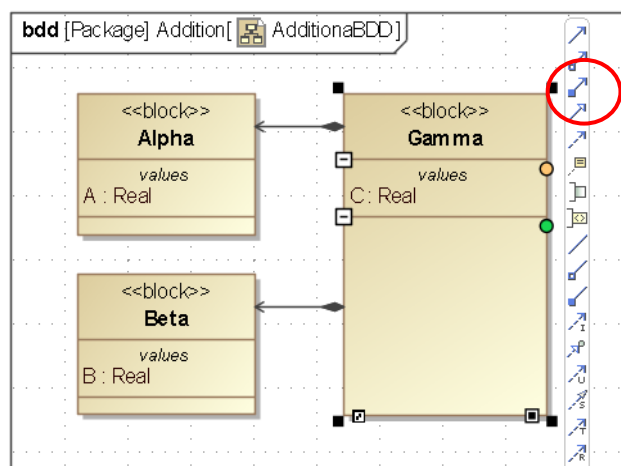

Figure 2.8 Block Definition Diagram with Floating Toolbar and Directed Composition Arrows
- d. Repeat steps a-c for Beta (Figure 2.8)